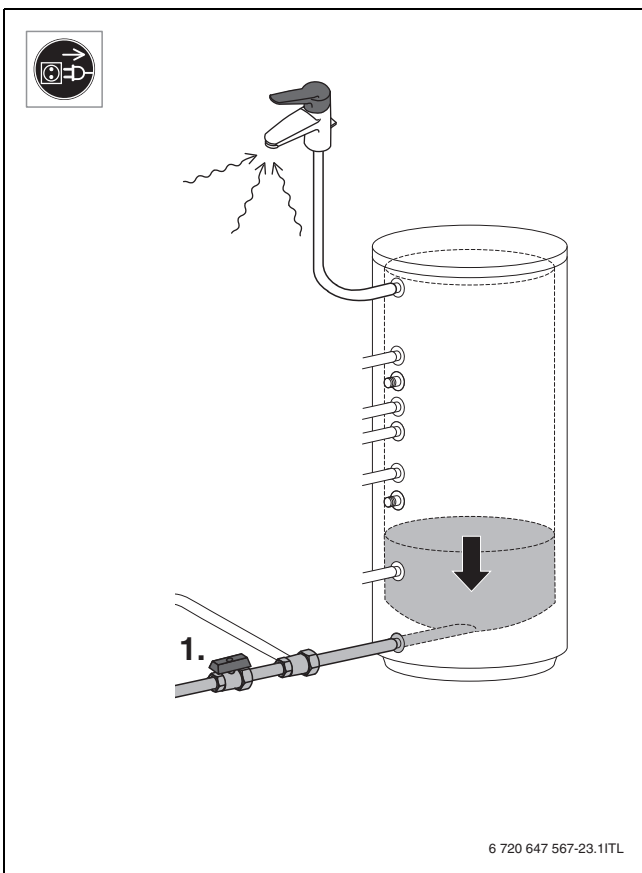

Fig. 17
- ▶ Vidanger le ballon (→ fig. 17, page 56).